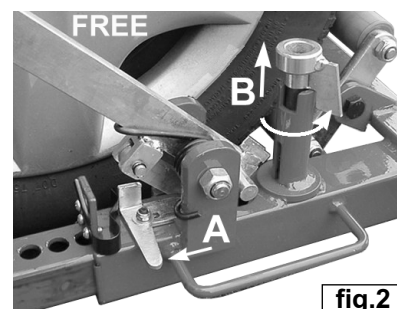

fig.2
- 3.2.2. Disengage the ratchet lever by moving it as far as it will go to the left. See fig.2 - A. (FREE)
- 3.2.3. Lift the locking pin and tab and turn it anticlockwise so that it is no longer engaged in the slot. See fig.2 - B.(FREE)